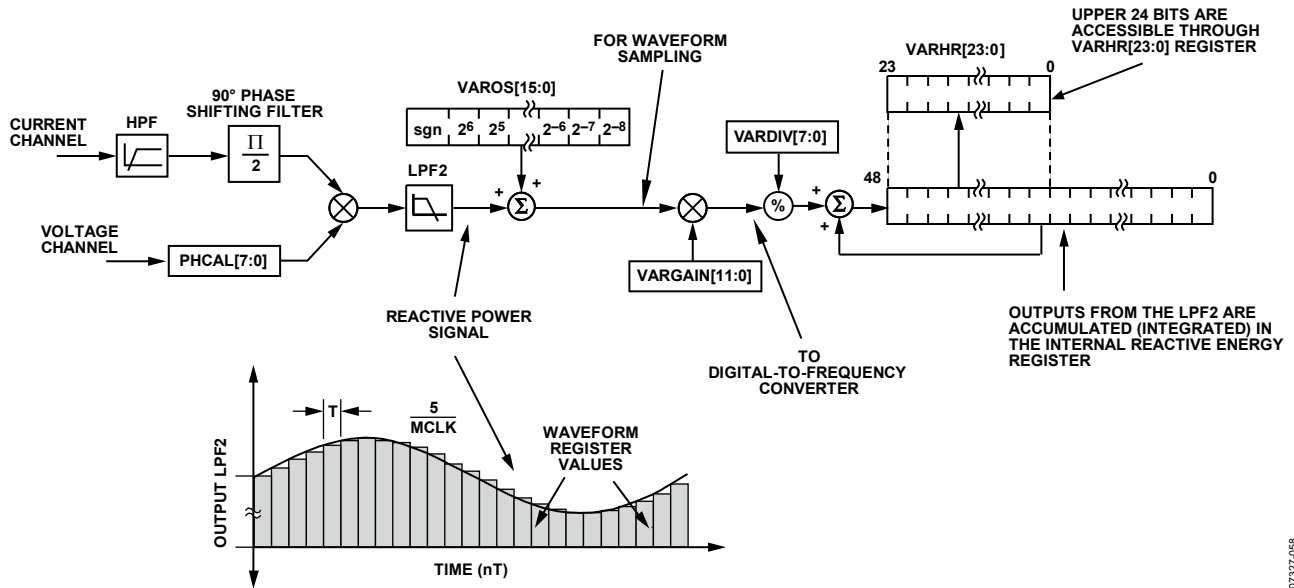

Figure 58. Reactive Energy Calculation
The instantaneous reactive power signal $q(t)$ is generated by multiplying the voltage and current channels. In this case, the phase of the current channel is shifted by 90° . The dc component of the instantaneous reactive power signal is then extracted by a low-pass filter to obtain the reactive power information (see Figure 58).
Figure 58 shows the signal processing chain for the ADE7518 reactive power calculation. As explained in the Reactive Power Calculation section, the reactive power is calculated by applying a low-pass filter to the instantaneous reactive power signal. Note that, when reading the waveform samples from the output of LPF2, the gain of the reactive energy can be adjusted by using the multiplier and by writing a twos complement, 12-bit word to the VAR gain register (VARGAIN[11:0]). Equation 23 shows how the gain adjustment is related to the contents of the watt gain register.
The ADE7518 also incorporates a reactive power offset register (VAROS[15:0]). This is a signed, twos complement, 16-bit register that can be used to remove offsets in the reactive power calculation (see Figure 58). An offset may exist in the reactive power calculation due to crosstalk between channels on the PCB or in the IC itself. The offset calibration allows the contents of the reactive power register to be maintained at 0 when no power is being consumed.
The discrete time sample period (T) for the accumulation register in the ADE7518 is $1.22 \mu\text{s}$ ($5/\text{MCLK}$). As well as calculating the energy, this integration removes any sinusoidal components that may be in the active power signal. Figure 58 shows this discrete time integration or accumulation. The reactive power signal in the waveform register is continuously added to the internal reactive energy register.
As shown in Figure 58, the reactive power signal is accumulated in an internal 49-bit signed register. The reactive power signal can be read from the waveform register by setting the WAVMODE register (0x0D) and setting the WFSM bit in the Interrupt Enable 3 SFR (MIRQENH, 0xDB). Like the current and voltage channel waveform sampling modes, the waveform data is available at a sample rate of 25.6 kSPS, 12.8 kSPS, 6.4 kSPS, or 3.2 kSPS.